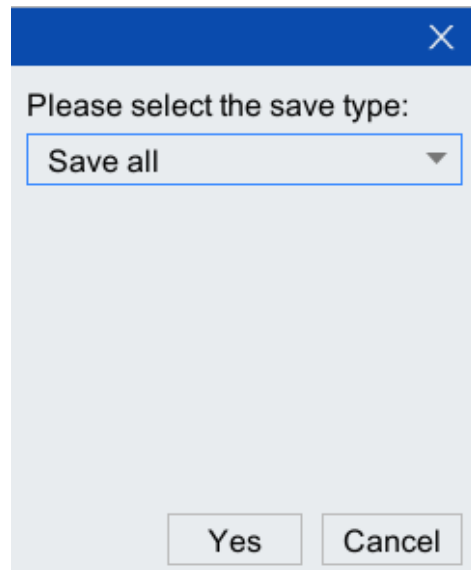

Figure 6-6 Save type dialog box
Step6. After completing the parameter configuration, click <Save> at the bottom of the interface, and a dialog box as shown in Figure 6-6 will pop up. Select 'Save All' in [Please Select Save Type] and click <Yes>.